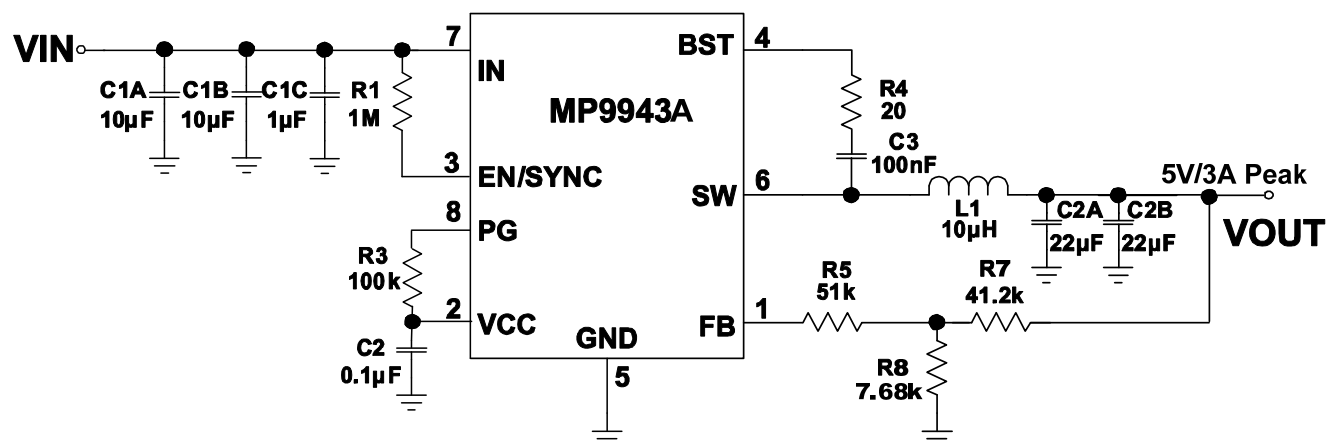

Figure 8: 12VIN, 5V/3A Peak Output
- 8) The recommended layout is based on the Figure 8 Typical Application circuit on page 18.
The detailed application schematic is shown in Figure 8. The typical performance and circuit waveforms have been shown in the Typical Performance Characteristics section. For more device applications, please refer to the related Evaluation Board Datasheets.